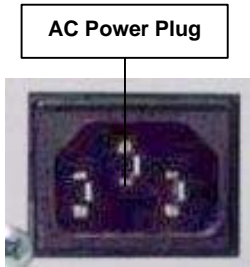

Fig. 12: AC power connection
1. Plug the AC power cord into the system's AC power socket (refer to *fig. 12*).